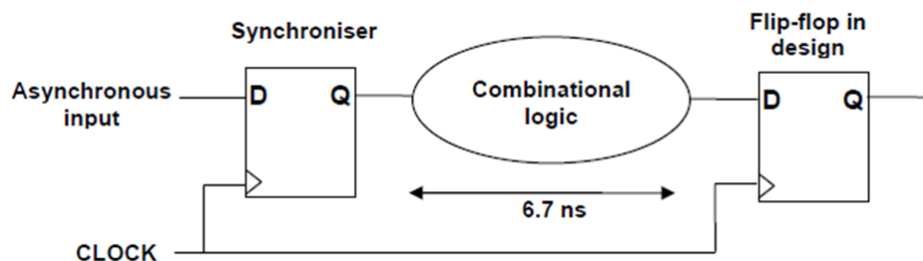

Figure B2.1
- The circuit shown in Figure B2.1 has two identical flip-flops which are clocked at 20MHz. The synchronising flip-flop is sampling an asynchronous 2MHz input.